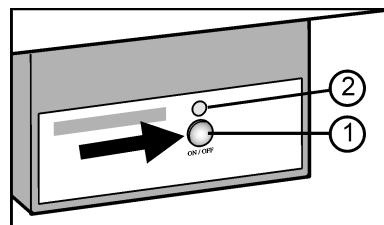

Fig. 48
- Press On/Off button Fig. 48 (1) so that the LED Fig. 48 (2) lights up.